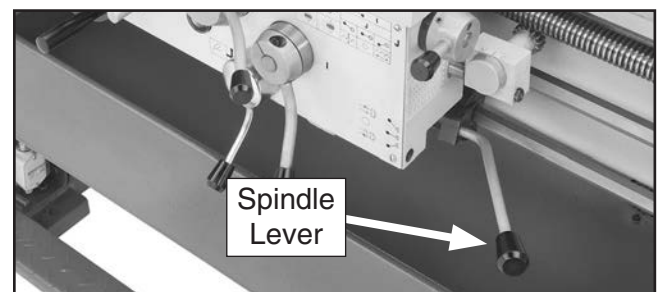

Figure 28. Spindle lever in middle (OFF) position.
7. Make sure the spindle lever is in the middle (OFF) position to prevent unexpected startup when power is enabled (see **Figure 28**).